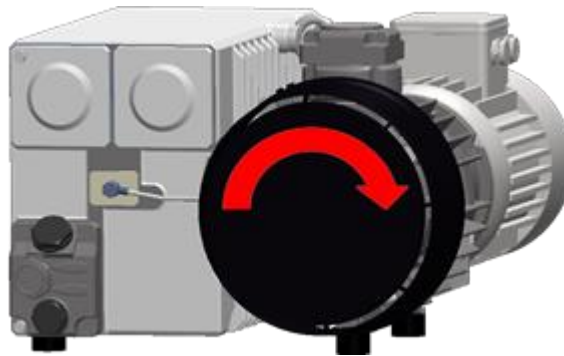

Figure 6: Direction of Rotation of the Vacuum Pump
5. Check the correct direction of rotation of the three-phase model pump. See *Figure 6: Direction of Rotation of the Vacuum Pump* on page 24.